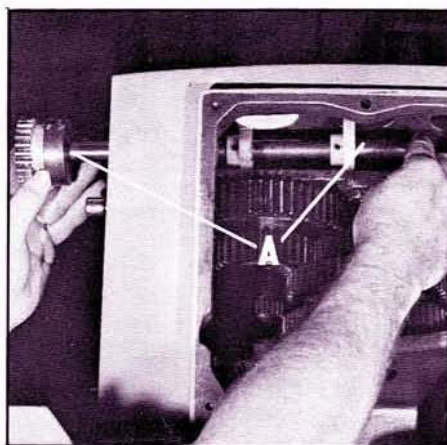

**Fig. 2**
2. Remove snap ring (A) and remove speed chart (B) Fig. 2. Using wrench (C) loosen screw located on top of the head that fastens cam shaft in place.